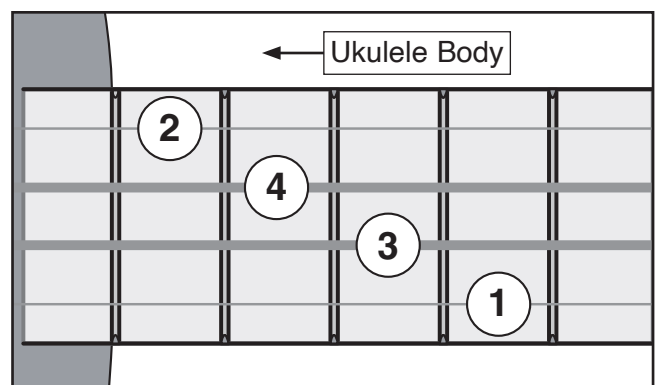

Figure 25. Proper string arrangement.
Each string of the ukulele is a different diameter. Number the strings 1, 2, 3, and 4—from the smallest diameter to the largest diameter. Their arrangement on the ukulele is shown in **Figure 25**.
3. In order shown in **Figure 25**, pull strings through bridge slots, over saddle, and over string nut slots.